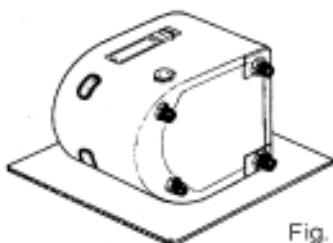

Fig. 1
1. Place wheel on its side with soft material underneath. (Fig. 1)